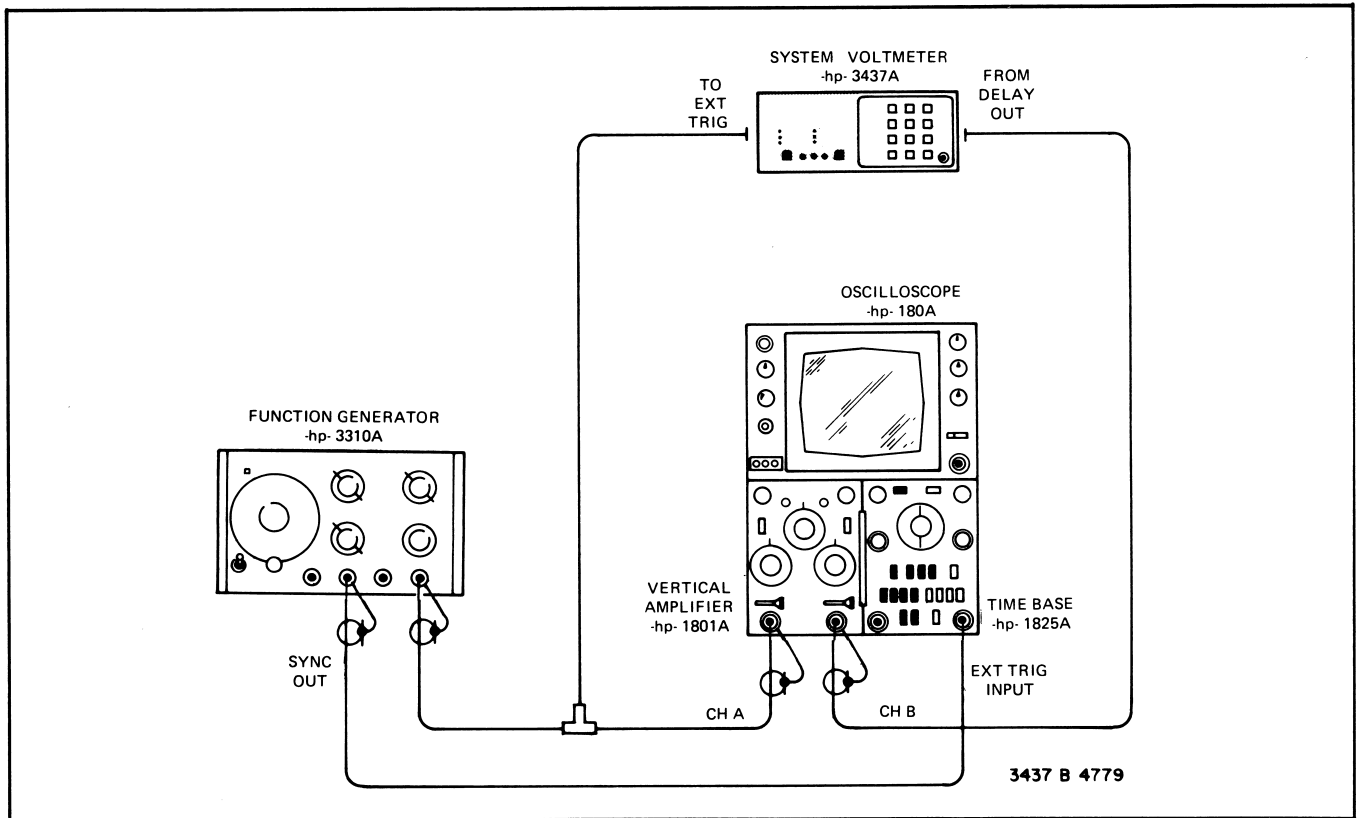

Figure 3-4. Delay Generator.
a. Connect the equipment as illustrated in Figure 3-4.